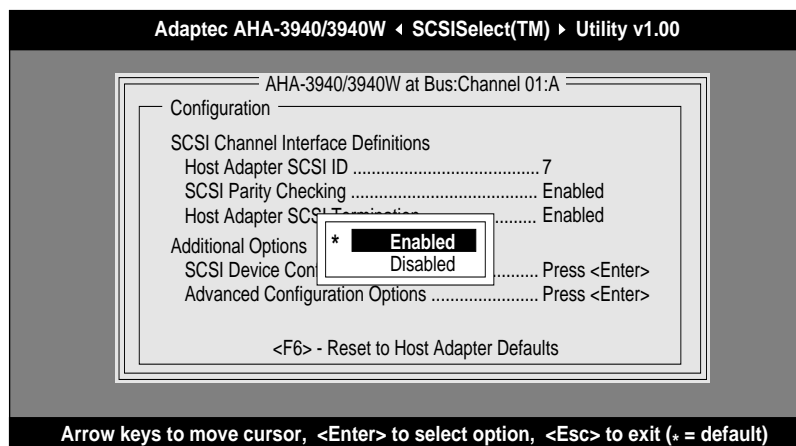

Figure 3-7. SCSI Parity Checking Selection
- 2 Highlight **SCSI Parity Checking**, then press **Enter**. The pop-up menu shown in Figure 3-7 appears.